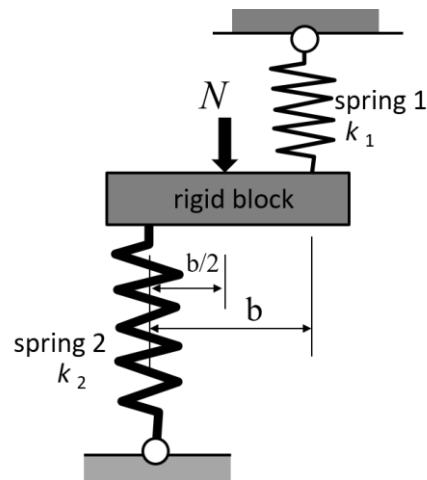

Figure 3
(2). (a). **Figure 3** shows a spring-block assembly. Determine the force in spring 1 using Principle of Minimum Potential Energy. Given that: $N = 5 \text{ kN}$, $b = 100 \text{ mm}$, $k_1 = 0.5 \text{ kN/mm}$, $k_2 = 2.5 \text{ kN/mm}$.